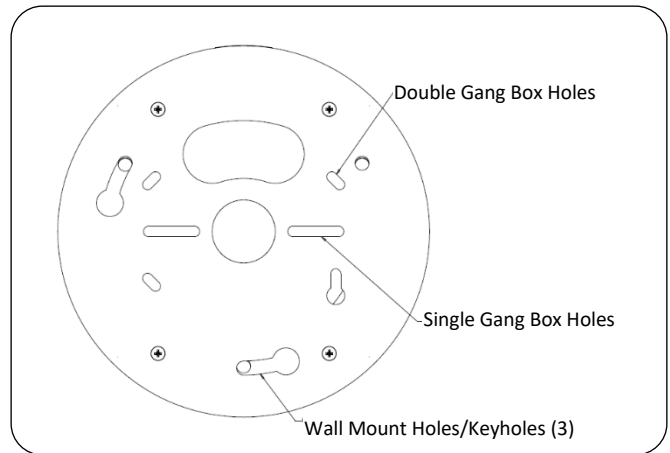

Figure 1 – Rear of Wedge
4. Attach mount to installation site (see Figure 1).